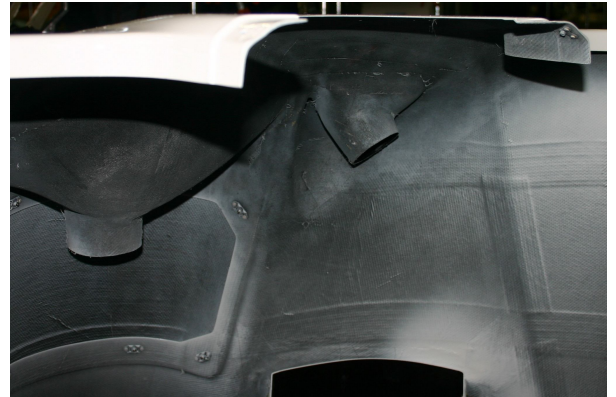

Figure 9
15. Secure Insert to Cowl with 1 ply of Glass Fiber Cloth (RM3733-001 or equivalent) and Fire Retardant Polyester Resin (RM7800-001 or equivalent). Allow resin to fully cure per product specification. **Bondo may be used to assist in initially securing Insert in place, and sticking Fiber Cloth to components.* (see Figure 9 for completed installation)